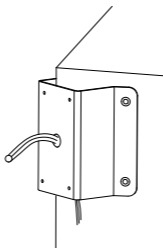

Figure 2-17 Install the Corner Mounting Bracket
- 2) Route the cables from the corner mounting bracket, and fix the bracket with four flat washers and four hex nuts, as shown in Figure 2-17.